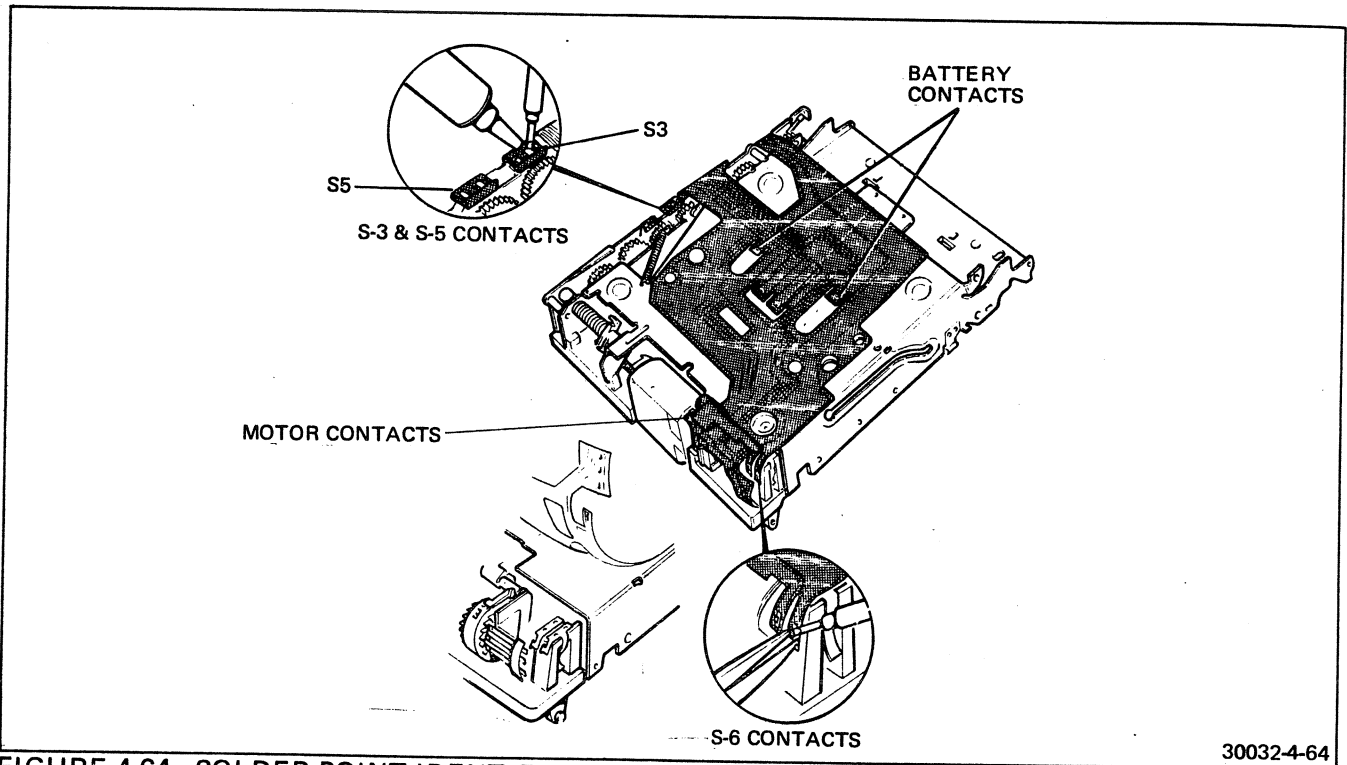

FIGURE 4-64 SOLDER POINT IDENTIFICATION
36. Locate the flex circuit extension that reaches the two motor contacts, Figure 4-64. Using tweezers, press the flex circuit over the motor contacts until the contacts protrude through the flex circuit. If this step is performed correctly, the flex circuit will be held securely on the two motor contacts. Solder the two contacts.
38. Depress the end of the flex circuit tab between the third switch contact and the inner surface of the frame. See Figure 4-64.